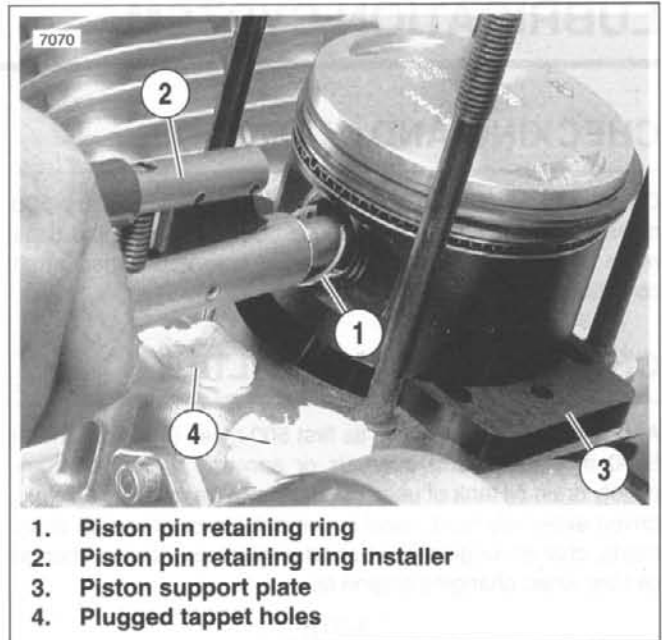

Figure 3-42. Installing Piston Retaining Rings
1. See Figure 3-42. Place PISTON SUPPORT PLATE (3) (Part No. HD-42322) around connecting rod.